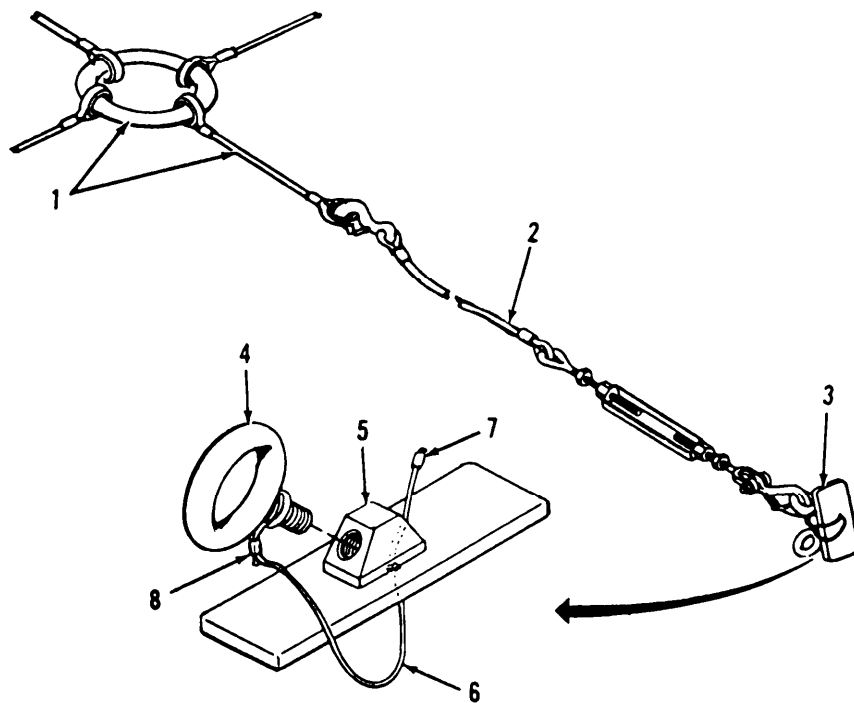

Figure 3-31. Hold Down Assembly Repair.
a. *Inspect.* (Figure 3-31)
- (1) Inspect plate and eyebolt assembly (3) for wear and deformation.
- (2) Inspect cable assembly for missing or damaged hardware.
- (3) Inspect cable assembly hooks for proper operation.
b. *Replace.* (Figure 3-31)
- (1) To replace the ring assembly (1), open safety snap on attaching hook of each of the four cable assemblies (2) and remove hook from thimble of ring assembly.
- (2) Open safety snap on hook at opposite end of cable assembly (2) and remove hook from plate and eyebolt assembly (3).
- (3) Unscrew each of the two eyebolts (4) and remove from plate (5).
- (4) Push cable (6) out of plate (5), cut sleeve (7 or 8), and pull and remove cable from opposite direction.
- (5) Push new cable (6) through eyebolt mounting hole on top of plate (5).
- (6) Attach sleeve (7) at end of cable (6) and pull cable out until sleeve (7) stops inside plate (5).
- (7) Attach other end of cable (6) around eyebolt (4) and secure to eyebolt with sleeve (8).
- (8) Repeat steps 6 through 8 above with second cable and eyebolt.
- (9) Push safety hook of cable assembly (2) to attach eyebolt (4) of plate and eyebolt assembly (3).
- 10) Push safety hook of each cable assembly to attach each thimble of the ring assembly (1).